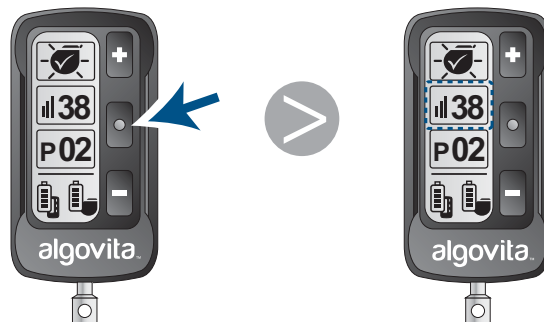

Figure 41. Selecting the Strength icon
2. Repeatedly press  until  blinks (Figure 41).